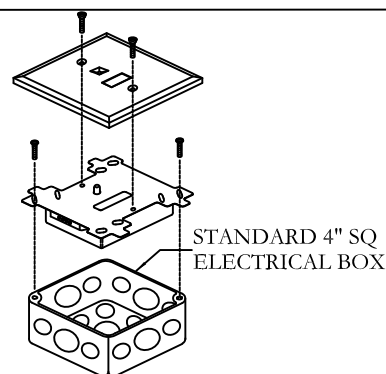

FIGURE 2
The (FWC-FSLC-CZM) Conventional Zone module is mounted as shown in Figure 2 on page 1 of this instruction.
- 2) Secure the module to a U.L. listed electrical box (supplied by installer), as shown in Figure 2.